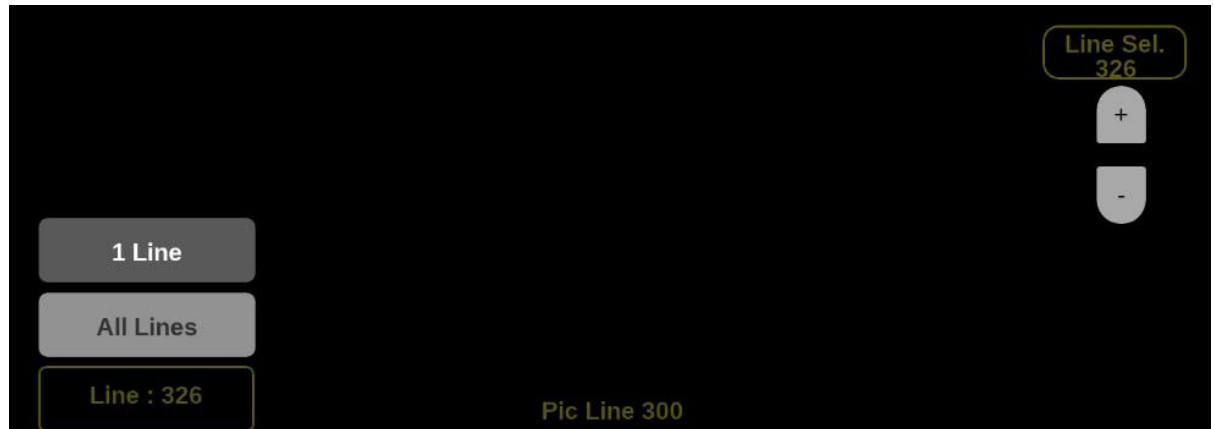

Figure 94: Waveform on-screen tools – Line Selects
If **1 Line** is selected, the display only shows results for the selected line in the picture. The line can be selected using the on-screen tools. (See Line Select function.) Or the line can be selected directly on the Picture. (See Figure 94.)
1. Select the **Lines** button at the bottom of the application. (See Figure 94.)